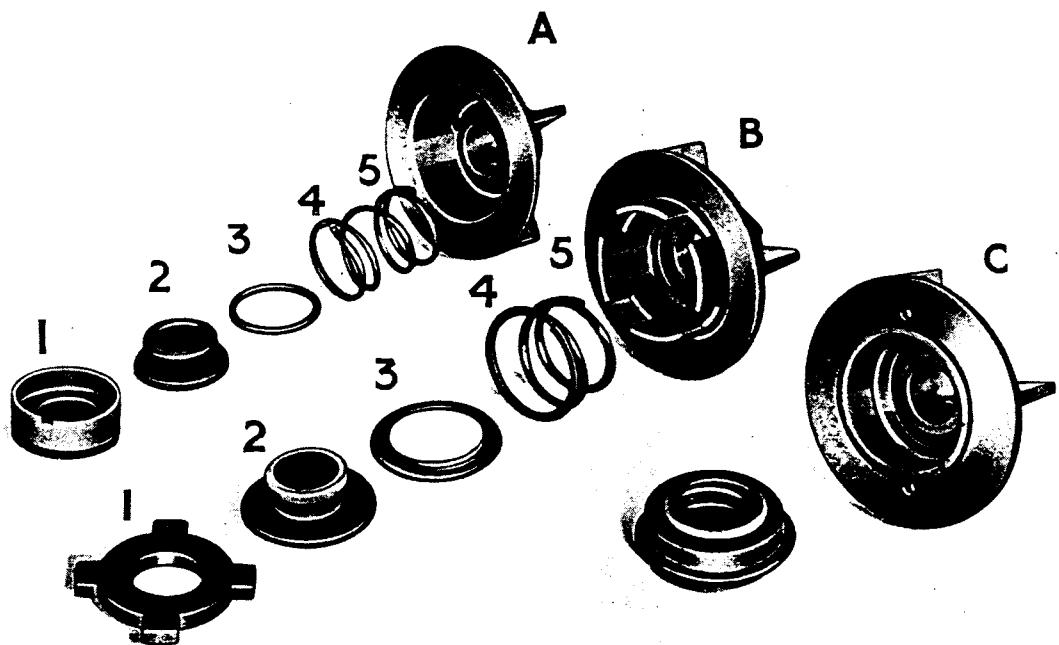

FIG. 8
A cross-sectional view of the assembly fitted to Tractors TE-A20 is shown in Fig. 7 from which a comparison can be made between earlier and later types as illustrated respectively below and above the drawing centre line. Fig. 8 shows three seal and impellor sub-assemblies which may be encountered during dismantling. Sub-assembly B is fitted to TE-20 pumps but impellers of certain TE-A20 pumps have been modified to take type B.
1. Remove small bolt (6) securing impellor on shaft and prise or twist off impellor levering behind vanes.
2. Remove seal assembly—See Fig. 8.
3. TE-A20—Remove pinch bolt from pulley hub clamp and tap out shaft to detach hub (10). On later type bearing assemblies, a self locking nut (11) must be removed from shaft end before withdrawal of clamp.
4. Tap out bearing and shaft assembly (7) with water thrower, (8) after removal of vent plug or circlip (9). The plug is
**TE-A 20 Early Type**—Secure pulley hub (10) on shaft by pinch bolt.
2. Locate water thrower (8) on shaft against inner end of bearing.
3. Press or tap bearing and shaft assembly into housing bore, locating outer circlip (9) where necessary.
4. Replace seal and impellor assembly—See Fig. 8.